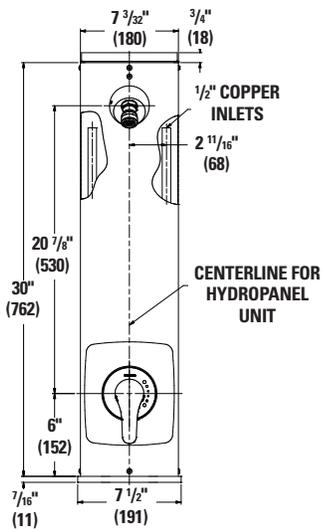

Figure 1: Front dimensions, HydroPanel II Model 450-4210E
1. See Figure 1, 2 & 3 to determine the horizontal position of the unit according to shower room layout and mark the centerlines. For multiple shower applications, the recommended minimum distance between the centerlines of the two units is 36 inches (914 mm).